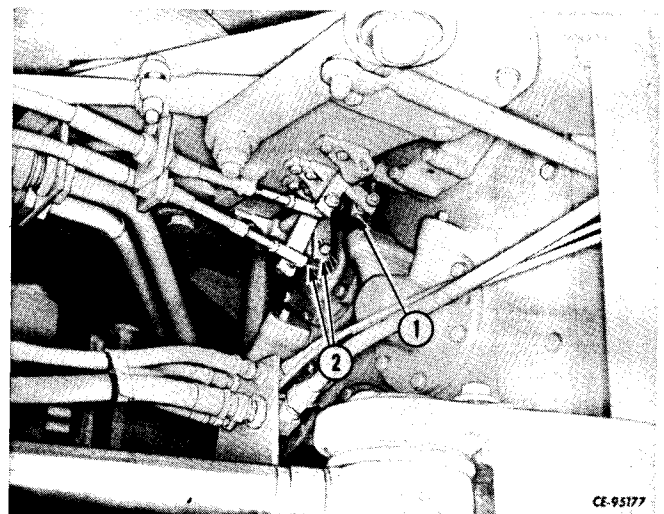

Figure 4-12
Disconnect shift linkage by removing rod (1, Fig. 4-12) from range valve and bars (2) from directional valve.